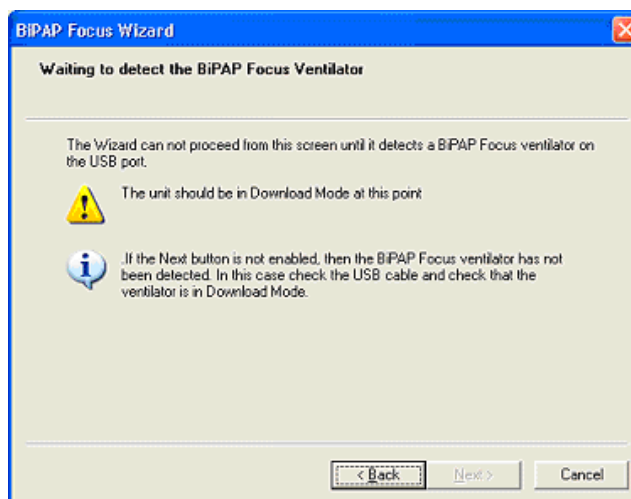

Figure 6-22: Powering Up the Ventilator
- Once the ventilator and PC are connected, power up the ventilator while holding down the Up and Down arrow buttons until the ventilator displays the message Waiting to detect the BiPAP Focus Ventilator (Figure 6-22). Click **Next**.